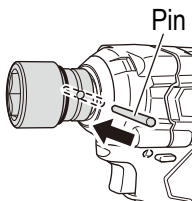

Fig. 11
- (2) Insert the pin into the socket. (Fig. 11)